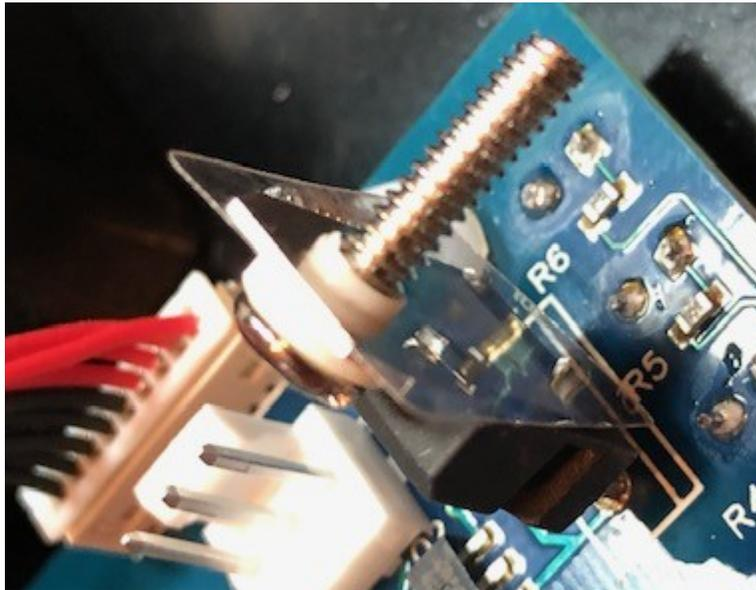

Fig 6
- b) Place screw (1) and spacer (5) through the hole in the tab on top of the voltage regulator.
- c) Place thin thermal conductive spacer sheet (6) on the back side of the voltage regulator with the screw going through the hole in the spacer. (Fig 6)